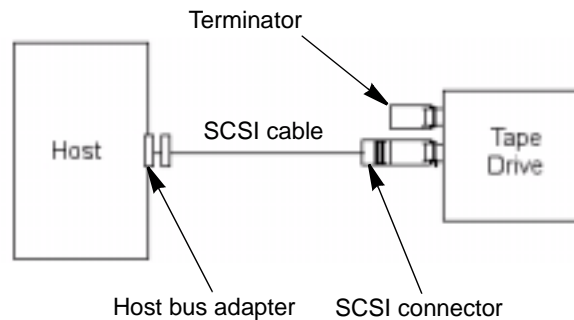

Figure 2-2 Tape drive is last or only device on the SCSI bus
- ▶ If the tape drive is the last or only device on the SCSI bus, connect a SCSI cable between the tape drive and the server, as shown in Figure 2-2. Install a terminator on the unused SCSI connector